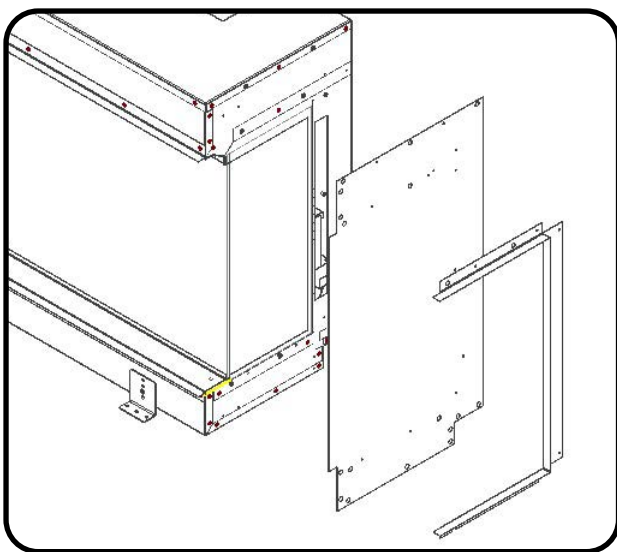

Fig 1.
- 1** Unscrew and remove the side panel(s) from the side/s of the appliance. Then remove the plaster kit from the side panel (**Fig 1**).